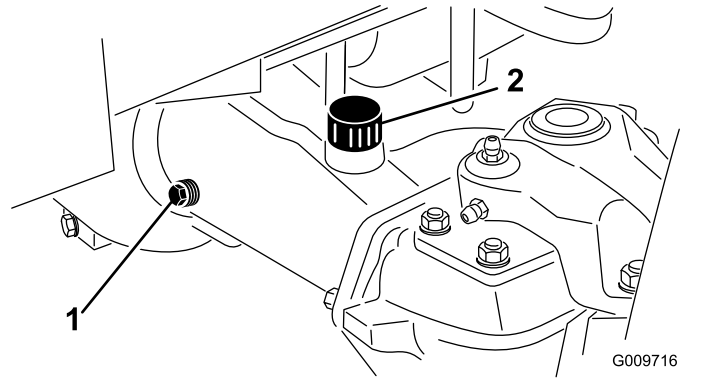

Figure 57
- Remove a check plug from 1 end of the axle and ensure that the lubricant is up to the bottom of the hole (Figure 57).